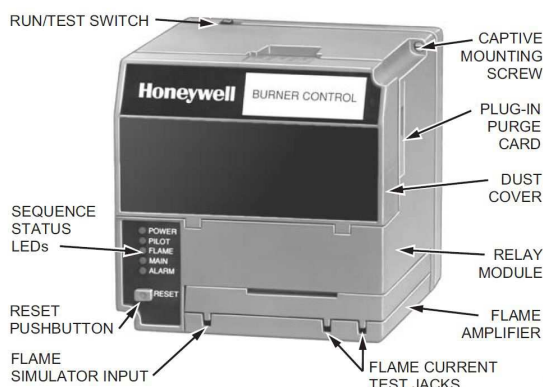
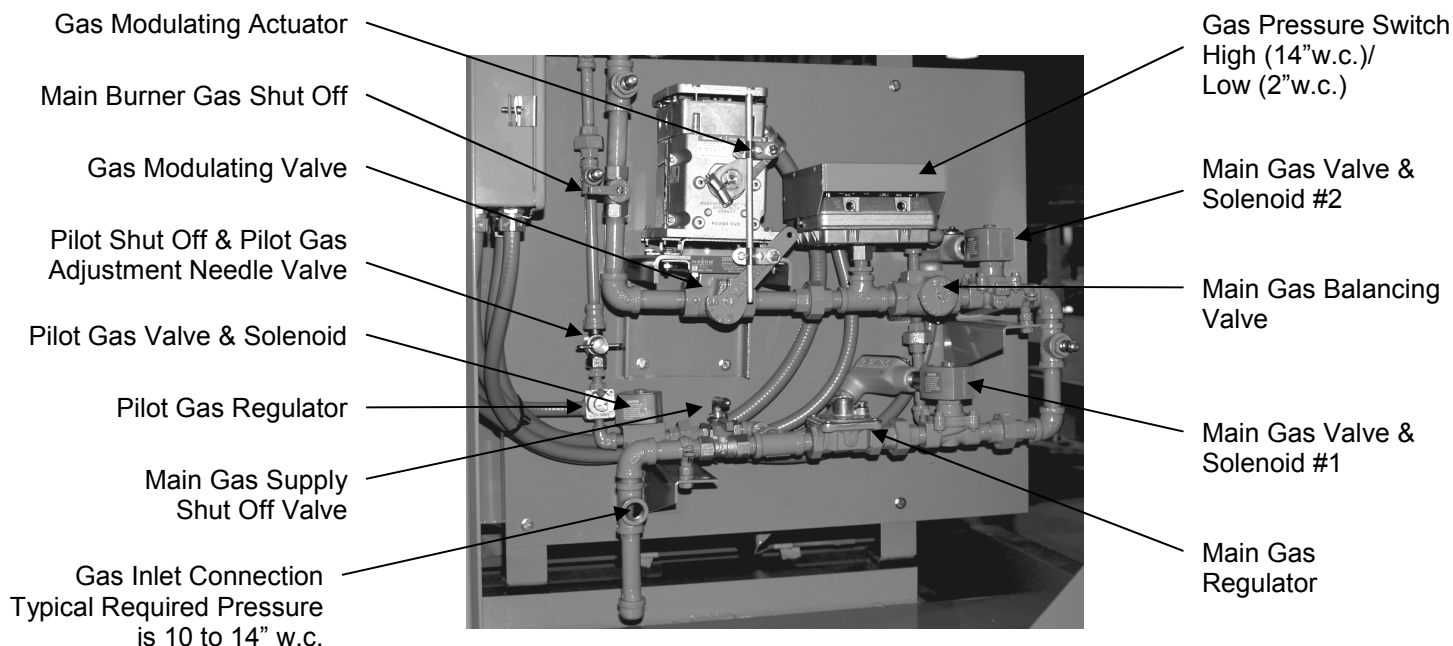

Figure 5 - Burner Control Relay Module
Figure 7 - Gas Train Assembly
There are several important parts to an industrial gas unit. On the gas train itself is a pilot solenoid valve, two main gas solenoid valves, a main gas regulator and pilot gas regulator, a gas control valve actuator and several hand valves. The burner assembly consists of a spark ignitor, a flame rod (to detect a flame), and the burner. Inside the electric box is a burner control relay module (see Figure 5).
Note: The safety lockout requires a manual reset. See Figure 5 for the location of the reset button.
5. To light and adjust the gas pilot: Open the Main Gas Supply Shut-off Valve and open the Pilot Gas Shut-off Valve (see Figure 7). Start the unit and ensure the pilot indicator light illuminates (see Figure 5). Observe the pilot flame through the burner viewing window.
The gas supplied for a direct-fired unit may be natural or propane as specified on the unit nameplate. In a direct-fired unit, the burner is mounted in the reactivation air stream. The ignition sequence is controlled by a UL/FM/CSA approved Burner control relay module (see Figure 5). Piping details can be found on the Gas Flow Diagram provided with your unit.